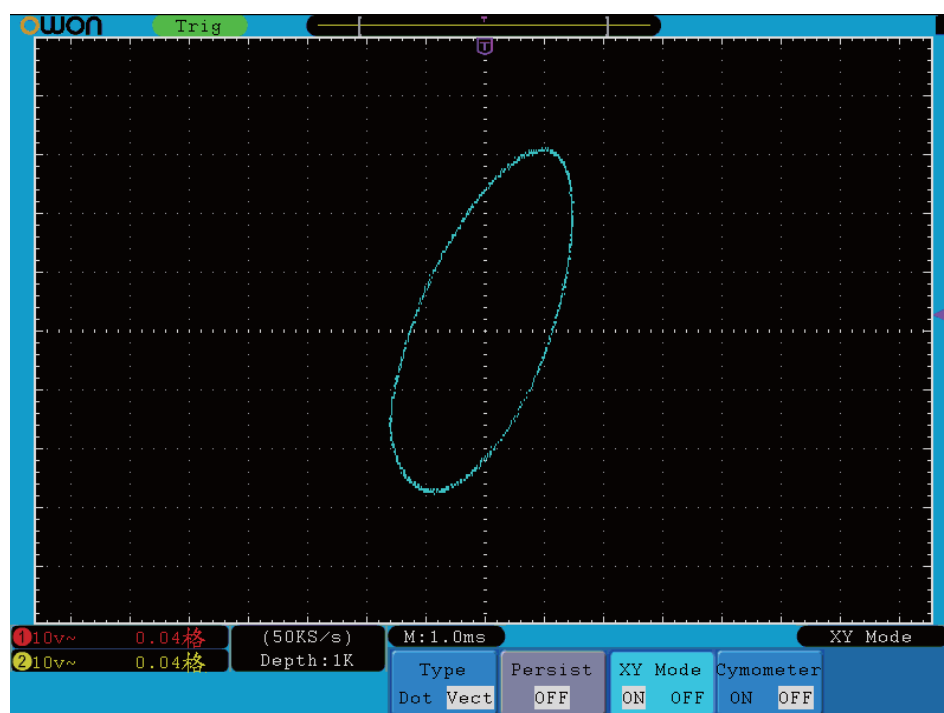

Fig.5-33 XY Display Mode
2. Press the **H3** menu selection button to set XY DISPLAY open. The display format is changed to be XY mode (see **Fig.5-33**).